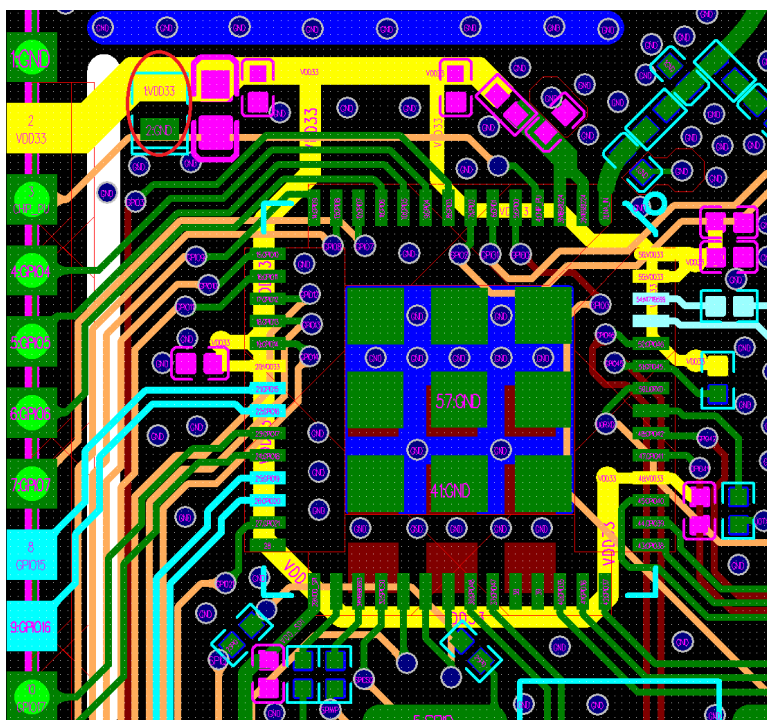

Figure 15: ESP32-S3 Power Traces in a Four-layer PCB Design
- The 3.3 V power traces, highlighted in yellow, are routed as shown in Figure 15. The width of the main power traces should be no less than 25 mil. The width of the power traces for VDD3P3 pins should be no less than 20 mil. Recommended width of other power traces is 10 mil.
- The ESD protection diode is placed next to the power port (circled in red in the top left quarter of Figure 15). The power trace should have a 10 μ F capacitor on its way to the chip, to be used in conjunction with a 0.1 μ F capacitor. Then the power traces are divided into two ways from here and form a star-shape topology, thus reducing the coupling between different power pins. Note that all decoupling capacitors should be placed close to the power pin, and ground vias should be added close to the capacitor's ground pin to ensure a short return path.